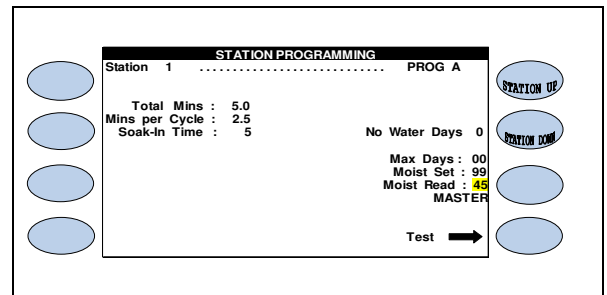

Figure 17
23.  Press the **TEST STATION # FOR MOISTURE SENSOR** Menu key to activate test. The screen will show “READING SENSOR ON # please wait (Less than 15 seconds)” for which ever station you selected. After a brief test the **STATION PROGRAMMING** screen will appear with the new Moisture sensor reading displayed (Figure 17).